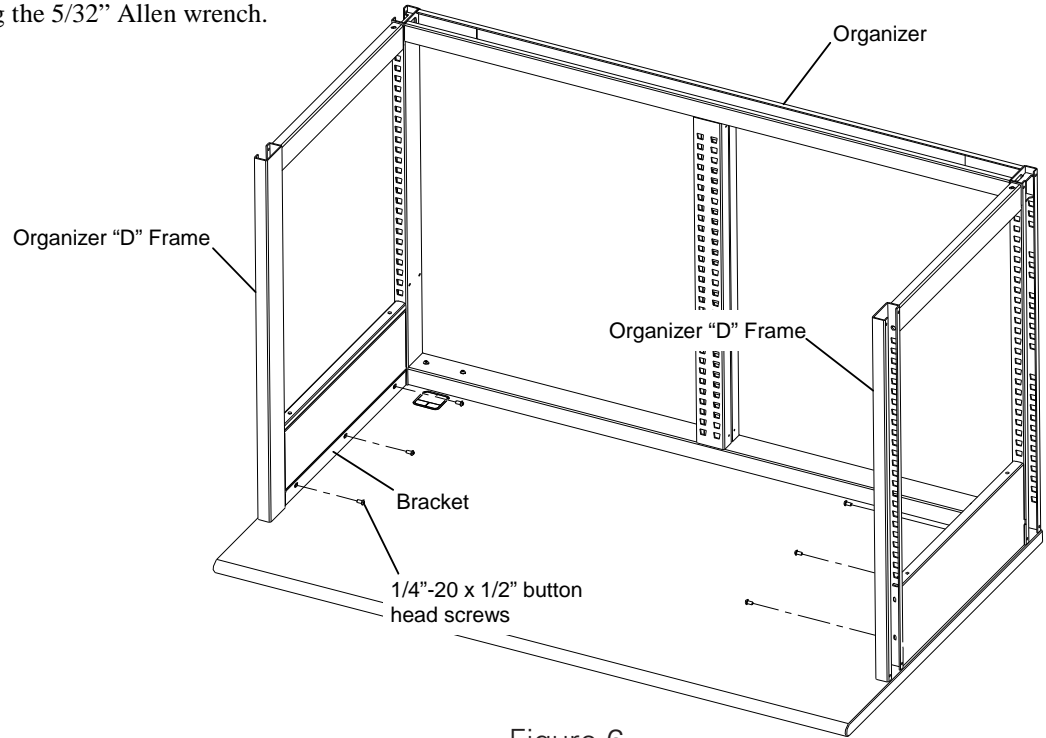

Figure 6.
- Attach the Brackets to the “D” Frames using six 1/4”-20 x 1/2” button head screws provided. Tighten the screws using the 5/32” Allen wrench. See figure 6.